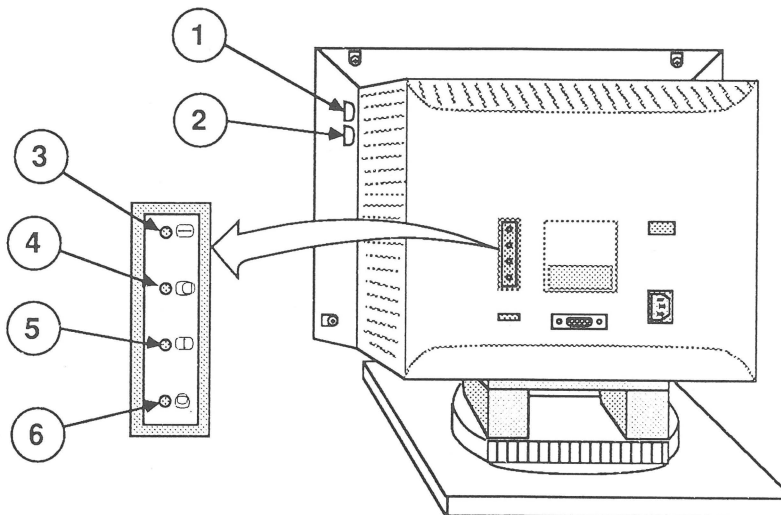

FIGURE 2
The BRIGHTNESS control (Figure 2, #1) and the CONTRAST control (Figure 2, #2) are located on the side of the monitor and can be adjusted by the user.
- HORIZONTAL SIZE (Figure 2, #3)
- HORIZONTAL SHIFT (Figure 2, #4)
- VERTICAL SIZE (Figure 2, #5)
- VERTICAL SHIFT (Figure 2, #6)